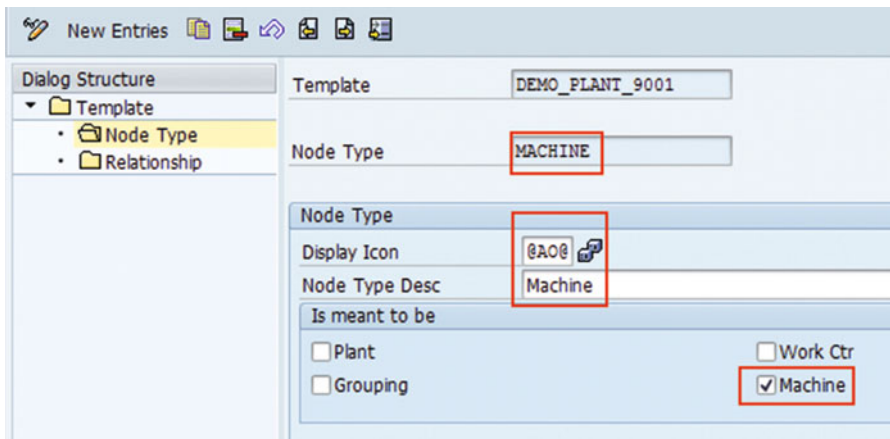

Figure 3-39. Configure plant hierarchy template: machine (Level 4)
1. Node Type: MACHINE (refer to Figure 3-39)